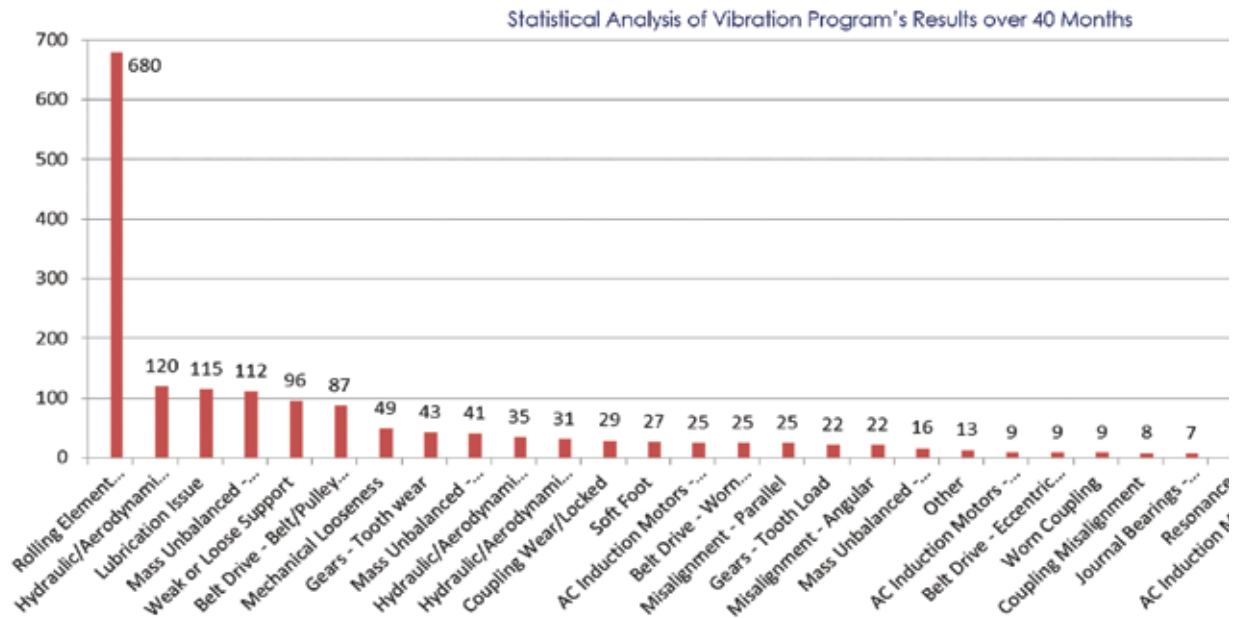
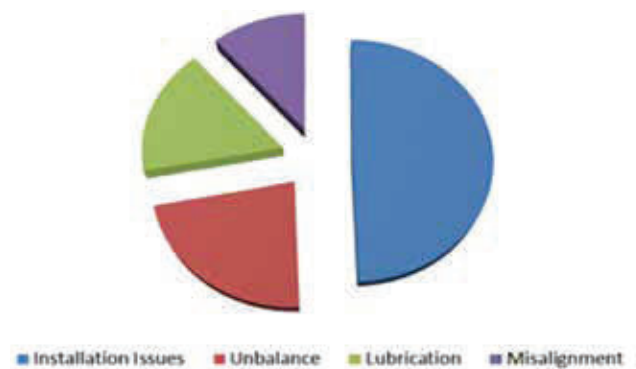

Figure 5. Statistical Analysis of Vibration Program's Results over 40 Months
Figure 6. Root Cause Analysis
- Enhanced programs are focused on using historical pareto analysis and RCFA to drive elimination (See Figure 5)
The example data in Figure 5, shows a vibration program over a 40-month period, where predictive finds were categorized and tracked for approximately 2000 rotating assets. A root cause analysis was performed on the top failure, breaking down the 680 identified failures into four primary categories based upon work order histories and failure timing. (See figure 6)
Understanding the lack of proper precision maintenance techniques and its effects on reoccurring failures may help us get to an expedited root cause. Driving the justification to implement precision maintenance and the time to properly apply those techniques can reduce many failure patterns. If we look at the top four issues found in Figure 6, Installation, Balance,